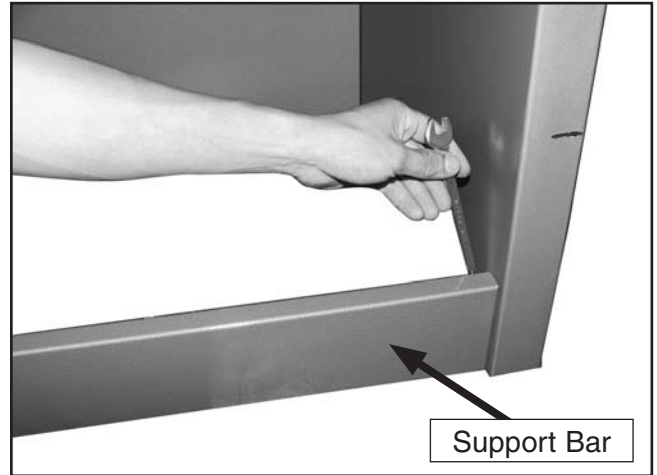

Figure 6. Support bar installed.
1. Place the support bar between the lower right and left edges of the spray booth (**Figure 6**), and fasten each side with two $\frac{1}{4}$ "-20 x $\frac{5}{8}$ " flat head screws, two flat washers, and two hex nuts.